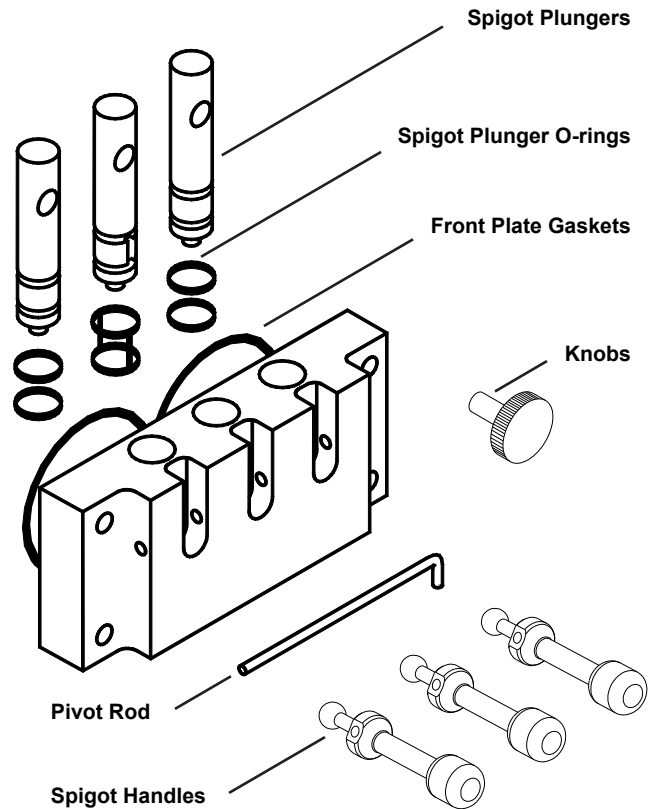

Fig. 20
- b. Slide the lubricated spigot plungers into the front plate (Fig. 20) making certain that the spigot handle slots are aligned to the front of the front plate. The spigot plunger with the double o-ring must be installed in the center cylinder of the front plate.